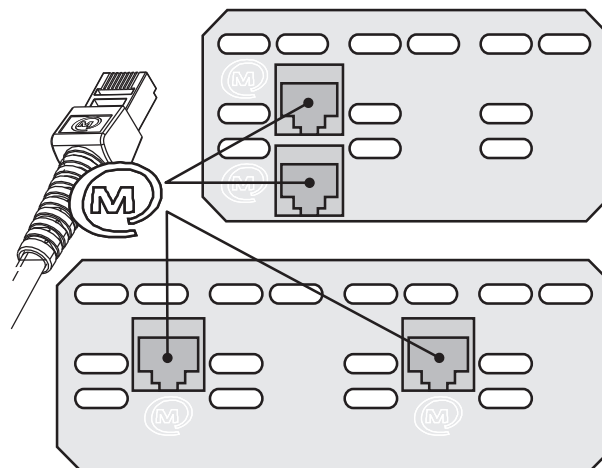

Figure 6: MasterBus connections Switch Input 3, 4
4. Insert the MasterBus cables at the back side of the device like shown in figure 6.